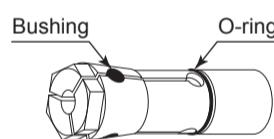

Fig. 6
- Before replacing the collet, ensure that the Bushings (3 pcs.) and the O-ring (1 pc.) are properly and securely attached (Fig. 6). If any of these items are missing, install them before replacing the collet.